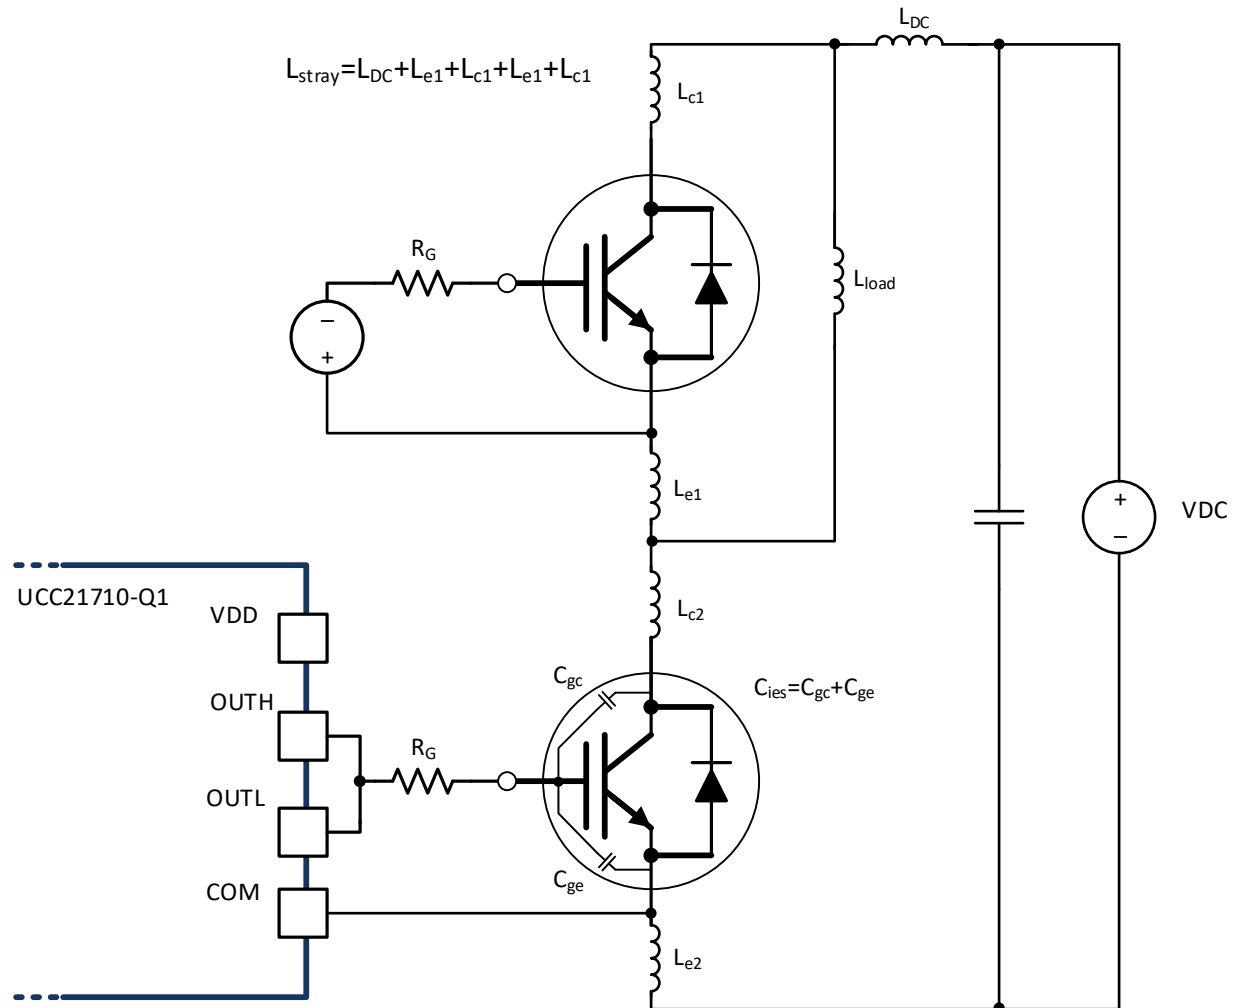

図 8-6. Stray Parasitic Inductance of IGBTs in a Half-Bridge Configuration
- $L_{\text{stray}}$  is the stray inductance in power switching loop, as shown in 图 8-6